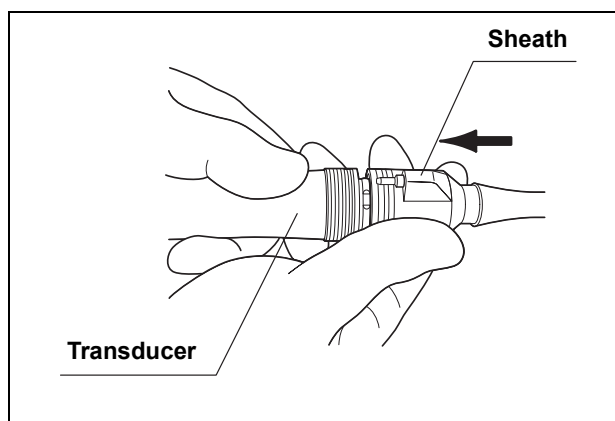

Figure 4.6
2. Insert the transducer to which the probe is attached into the proximal end of the sheath and push it all the way in until it stops (see Figure 4.6).